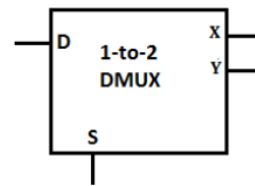

Figure 4: 1-to-2 DMUX
- a) Fill-in the truth table for the 1-to-2 DMUX shown in Figure 4.